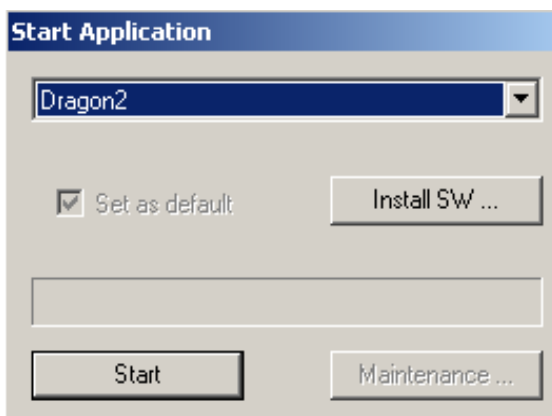

Figure 3-27 Start Application Window
- 4.) Power up the scanner. Wait for a dialog box like the one in Figure 3-27 on page 3-30 .